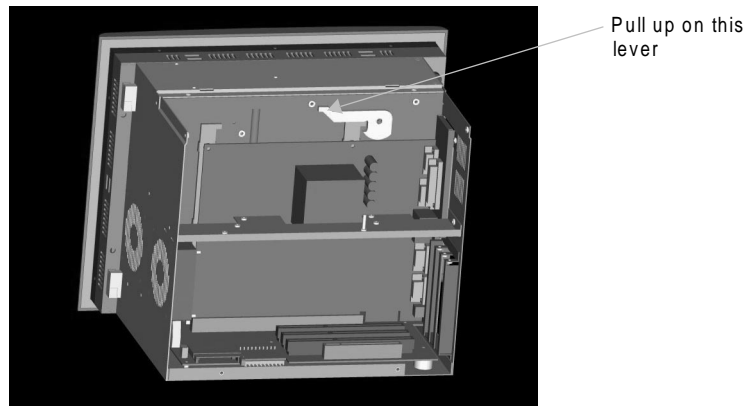

Figure 7: : CPU Card Lever
2. Pull up on the lever connected to the top of the CPU card, as shown in Figure 7 on page 6.
Important Make sure that the card is inserted into the socket as far as it will go. The riser lever should lie horizontal and flush against the top of the bracket, as shown in Figure 7.